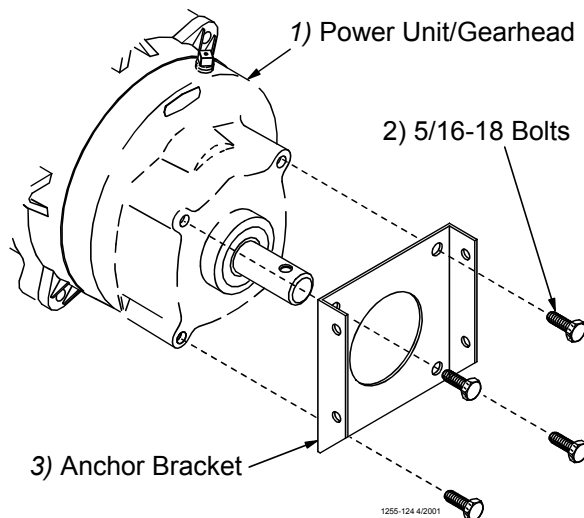

Figure 37. Assemble the Anchor Bracket to the Power Unit/Gearhead
3. Install the Anchor Bracket to the Power Unit/Gearhead, as shown in **Figure 37**, with the included 5/16-18 Bolts.